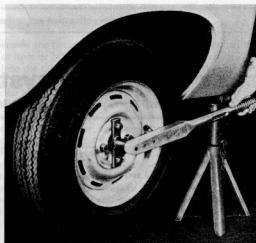

Fig. 8.16 Applying the test torque to the differential (Sec. 5)
- 8 Release the handbrake and fit the adaptor and torque wrench to the rear wheel on the other side of the car (Fig. 8.16).